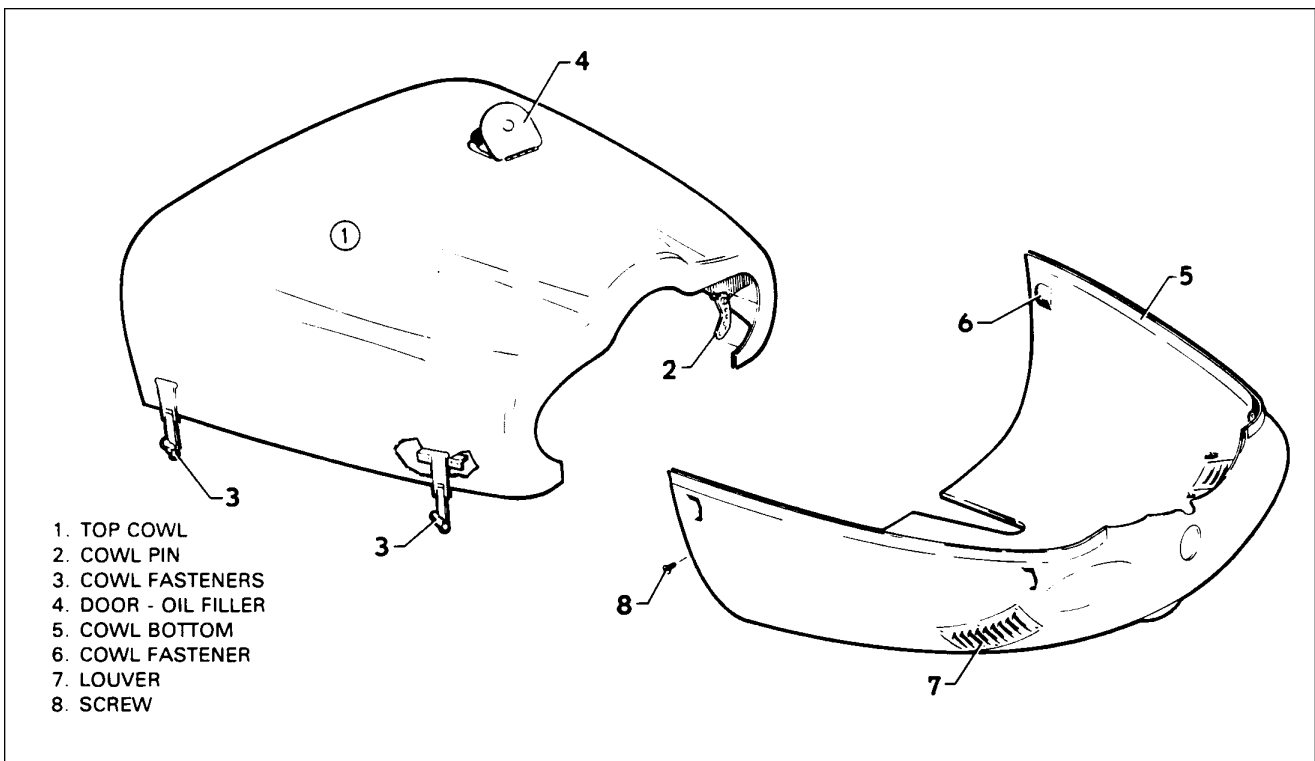

Figure 71-6. Archer II Cowling
1. Archer II. (Refer to Figure 71-6.)
1. Archer II. (Refer to figure 71-6.)